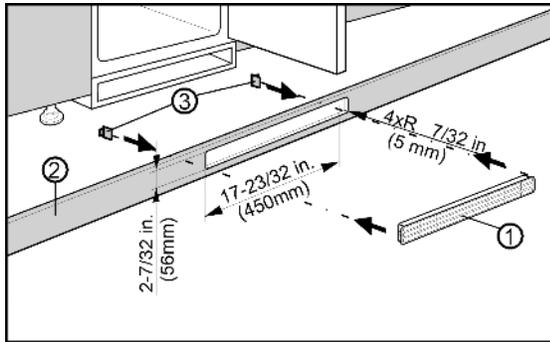

Fig. 7
Ventilation from underneath through the floor of the kitchen cabinet can be set up with the supplied ventilation grid Fig. 7 (3) or an air vent with at least a 31 in² (200 cm²) cross section area. If you use the supplied ventilation grid Fig. 7 (1) please proceed as follows:
- ▶ Insert the ventilation grid Fig. 7 (1) into the cut out in the cabinet floor Fig. 7 (2).
- ▶ Slide the snap connectors Fig. 7 (3) into the grid from behind until the hooks touch the cabinet floor.